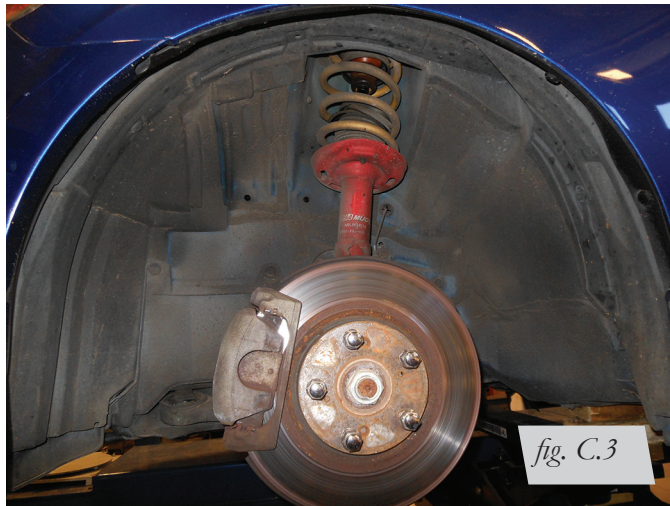

fig. C.3
3. Remove the front wheel and support the hub assembly. (Fig. C.3).